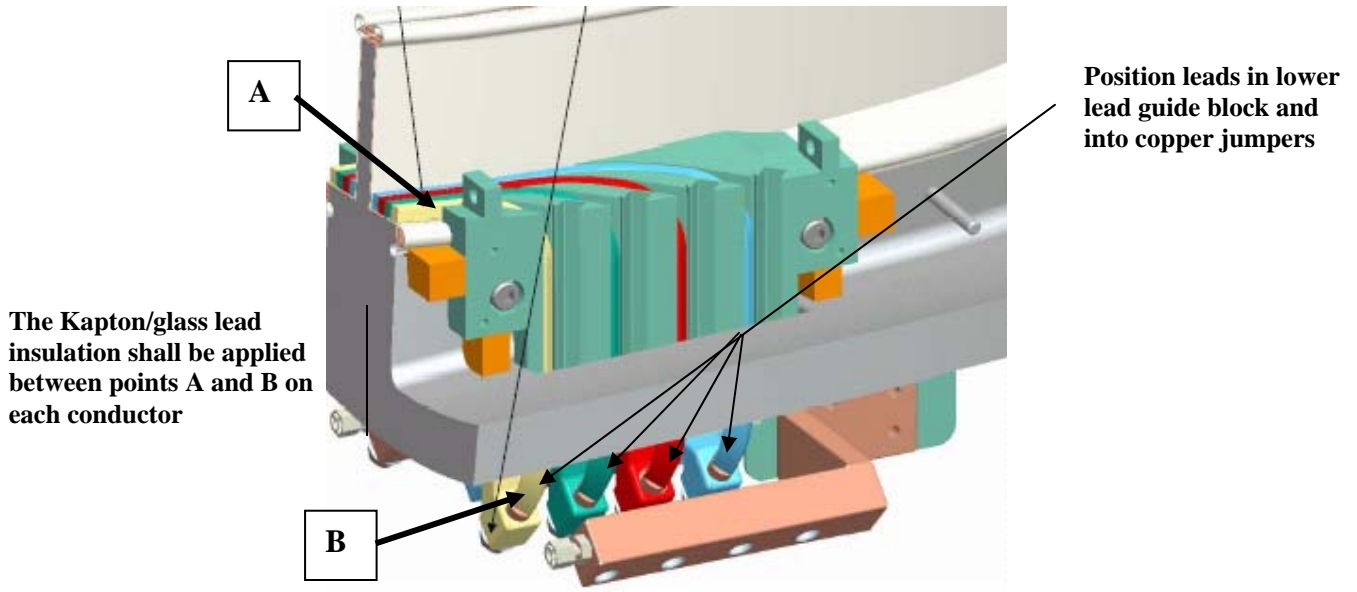

Figure 22- Positioning leads
6.14.1 Apply by hand (1) half-lapped layer of composite insulation [0.007 in. thick glass tape/ 0.0065(HN) Kapton tape w/ adhesive back] over each of the individual conductors starting from the point that the conductors separate to the conductor connector. [Figure 22- Positioning leads
6.14.2 Position the first layer of (4) conductors into the conductor slots in the lower lead guide block. The conductors shall be placed in alternating slots. Care must be taken during this operation, to minimize any damage to the over wrap insulation. Mate the copper connectors with the female jumpers. Secure connectors in-place but do not torque at this time. [Figure 22- Positioning leads]